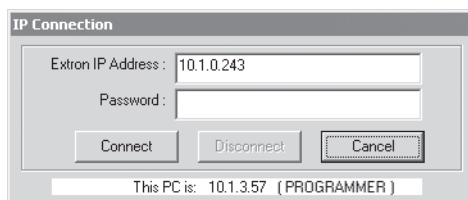

Figure 5-2 — Address and password entry
3. **If you selected *IP [LAN]* in step 2**, the IP connection window appears (figure 5-2). The window displays the last IP address that this computer was logged on to via the ISS/ISM Control program. If no one has logged on to the ISM from this computer, enter the switcher's ISM IP address. If the address has not been changed, the factory-specified default is 192.168.254.254.